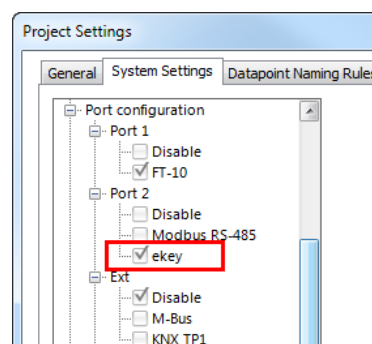

Figure 186: Enabling ekey in the Project Settings Dialog.
2. In the **System Settings** tab enable the ekey protocol on an RS-485 port, as shown in Figure 186.